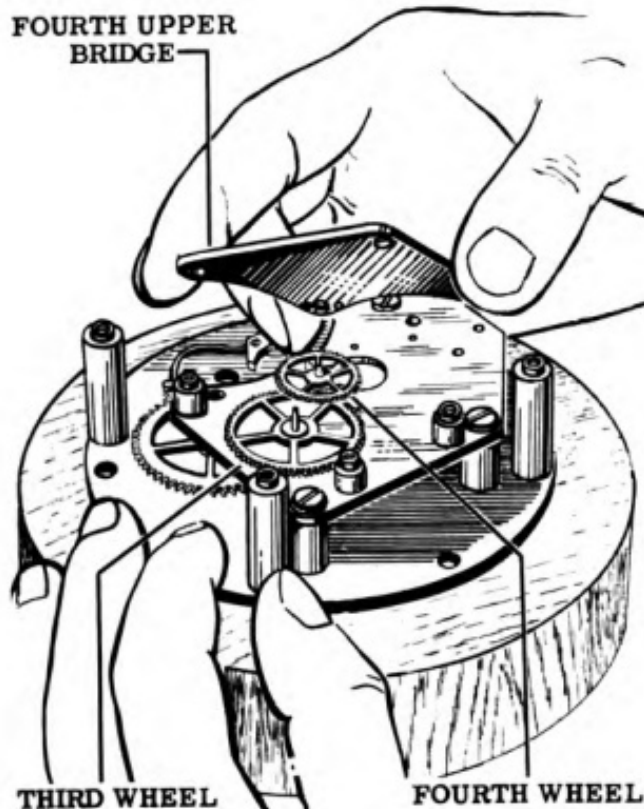

Figure 62
10. Place the fourth upper bridge in position (see Fig. 62) and fasten it down with the three fourth upper bridge screws. Use the special collar (Tool No. 13A) on the end of an automatic screwdriver to avoid scratching the bridge and to speed up the work.